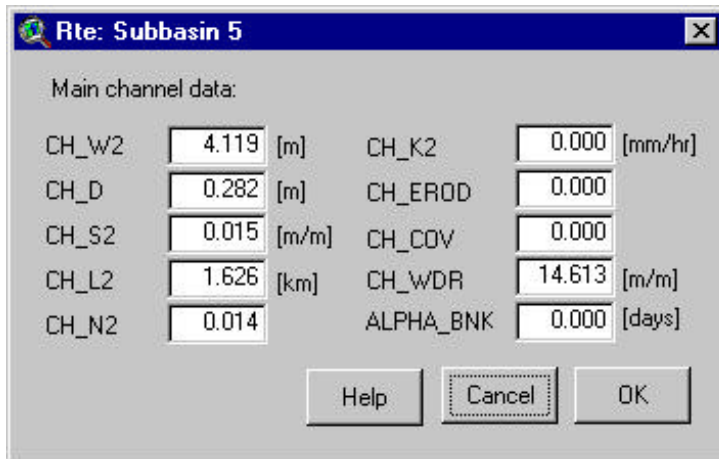

Figure 12.28
1. Click **.Rte** in the **Select Input File** list of the Edit Subbasin Inputs dialog box. Main channel parameters related to water and sediment transport are displayed in a new dialog box titled *Rte: Subbasin #* (Figure 12.28). A complete description of the variables is provided in the *Soil and Water Assessment Tool User's Manual, Version 2000*, Chapter 25.